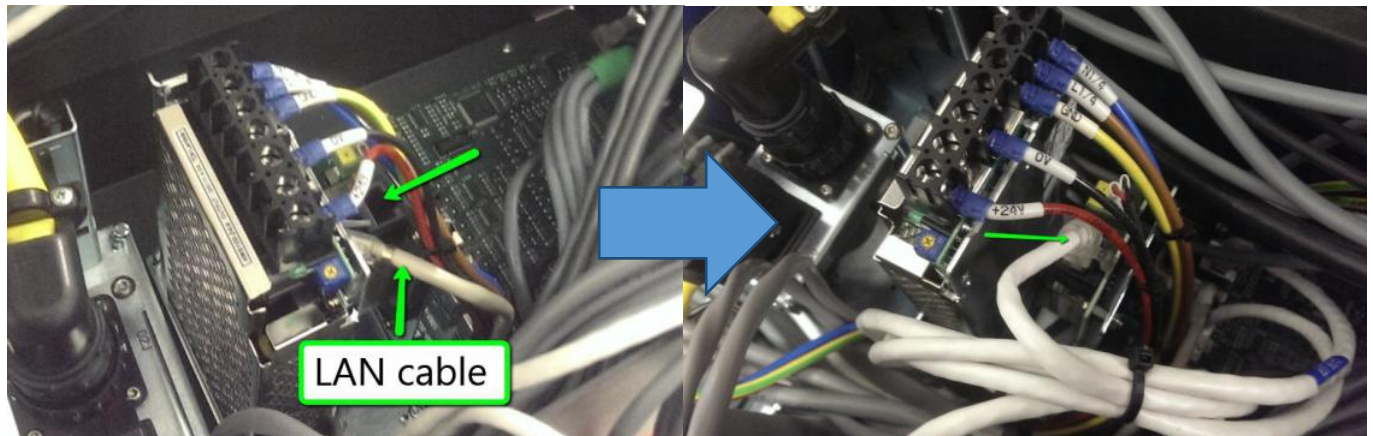

Figure 16 Lan cable
17. Connect LAN cables 2210-0021 as Figure 16.